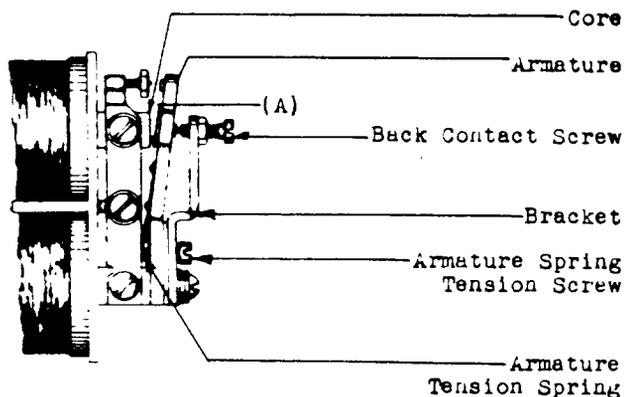

Fig. 4 - Unoperated Armature Air-Gap
2.07 Unoperated Armature Air-Gap - Fig. 4(A):